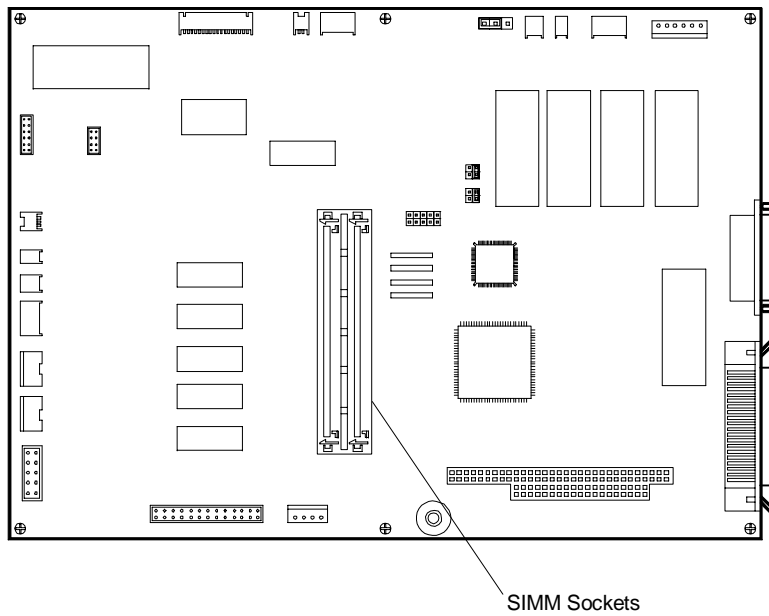
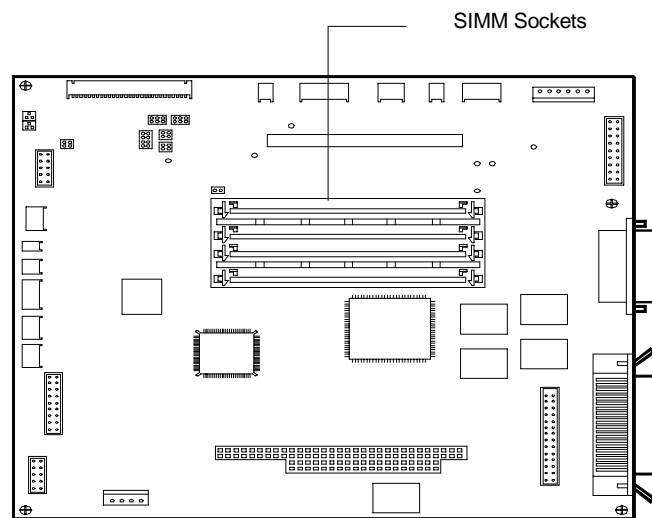

Figure 4-3 SIMM Sockets (Rev. 12, 13, or 14 Main Board)
Figure 4-4 SIMM Sockets (Rev. 15 or Rev. 16 Main Board)
6. Depending on the main board installed in the printer, locate the two SIMM sockets on the main board (see Figure 4-3 or Figure 4-4).